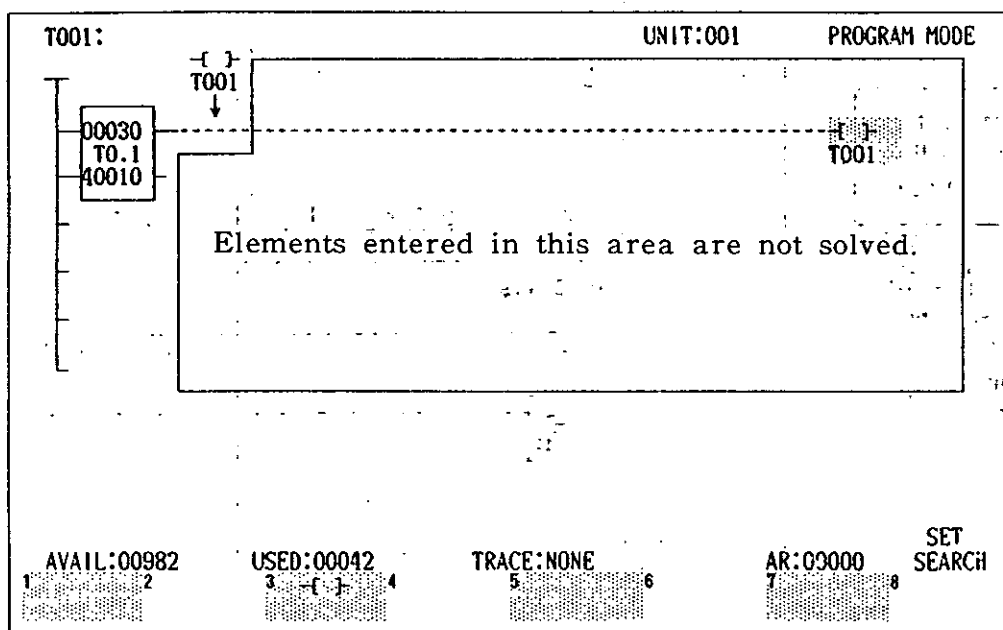

Fig. 6.121
5. Once a transition coil is solved in a transition condition circuit, this prevents solving of the elements in the columns to the right of the transition coil and in the lines under the transition coil. Refer to Fig. 6.121.